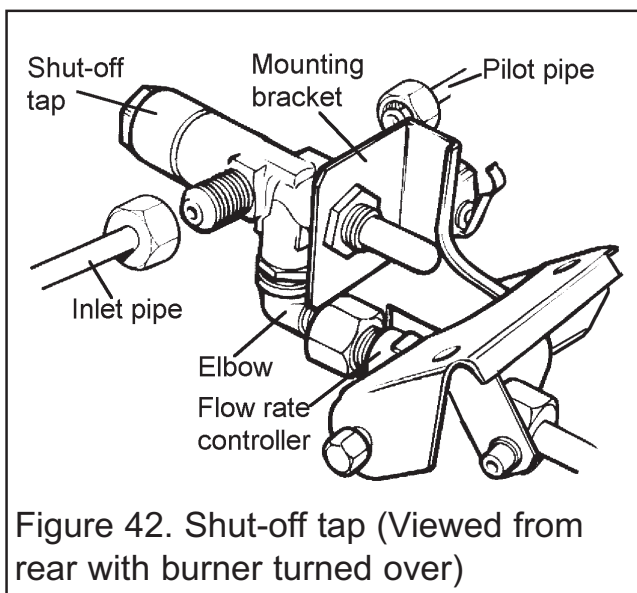

Figure 42. Shut-off tap (Viewed from rear with burner turned over)
- iii)* Carefully lift the fascia upward to clear the upper retaining brackets on the convection box (See figure 42). Pull the fascia clear and place carefully aside.
(See figure 42).